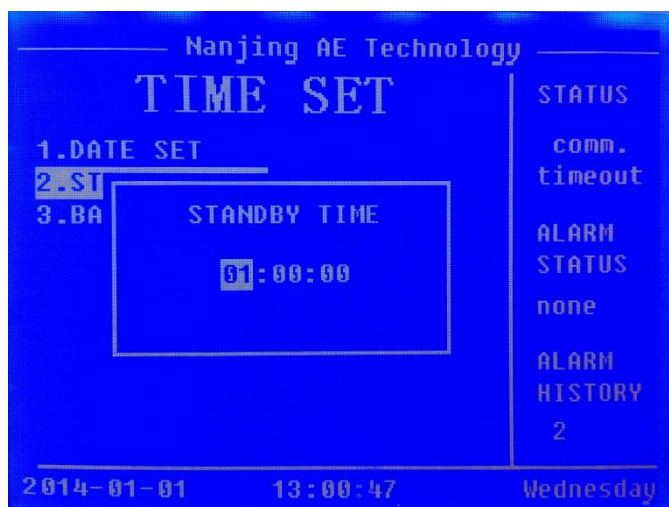

Figure 9: Standby time setting
**2: Standby time:** As shown in Figure 9, after entering the standby time setting menu, the current standby time is displayed. Press the OK, then you can press the up and down keys to modify the standby time. Press the OK key to exit.